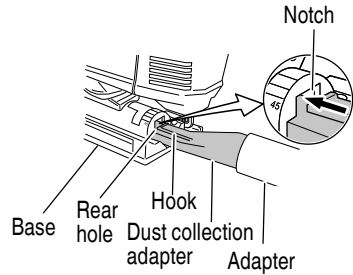

Fig. 23
- (5) Insert dust collection adapter into the rear hole of the base until the hook catches in the notch. (Fig. 23)
- (6) Press the hook to remove the dust collection adapter.